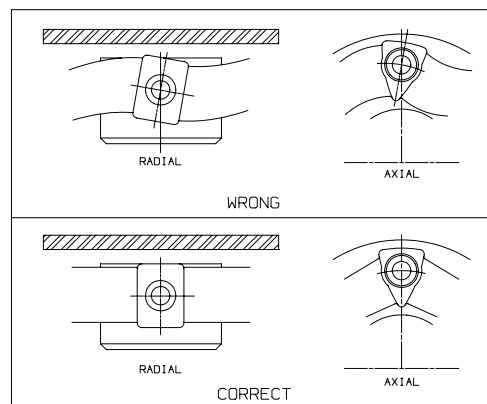
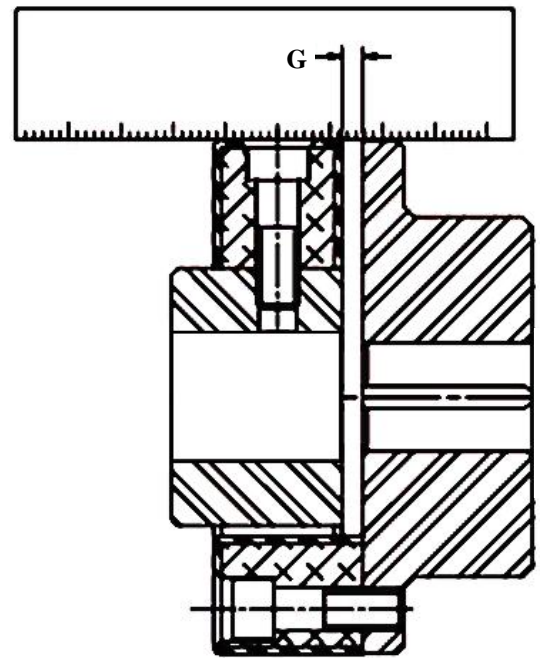

Figure 3
Figure 4
Since most adapter plate mounting holes will be threaded or have nuts welded to the back side of the plate, install the adapter on the flywheel. Then install the element with the axial cap screws or S-bolts finger tight only. It is usually a good idea to place a small amount of of a non hydrocarbon lubricant, such as petroleum jelly, under the head of the cap screws to prevent the inserts from twisting (See figure 3) when its time to tighten these screws to their specified torque. Avoid using hydrocarbon based grease or oil around the LF elements.
3. Attach the rubber element to the flange hub, flange adapter plate, or flywheel using the axial screws as shown in Figure 3. Only tighten these screws finger tight at this time. If this is the S-Style element, you will need to install the S-Pins on the flywheel or flywheel adapter without the element in place. The S-Pins can be tightened to the specified torque defined in Table 1.
5. Tighten the axial screws first. Make sure there is some non hydrocarbon lubricant under the head of the screw before inserting the screw through the element. See Table 1 for the proper torque values to use when tightening these screws. While tightening these screws, watch the inserts to ensure the inserts are not twisting or trying to rotate. See Figure 3, right side.
Note: Ensure the inserts in the element are not twisted as shown in Figure 3, top left. If the insert is twisted, it will not seat properly on the cylindrical hub and the bolts will come loose causing premature failure.
- b. When tightening the screws make sure the aluminum inserts or rubber arms are not twisted (see figure 4). To reduce the friction between the screw head and aluminum insert, place a drop of a non-hydrocarbon lubricant under the bolt heads prior to tightening. As stated in previous steps, a petroleum jelly should work. If the inserts are twisted (see figure 3), the radial inserts may not seat properly on the cylindrical hub or spacer shaft. If this happens the curved surface of the hub will not seat properly on the hub and will not carry the load with the full surface of the insert. When this happens, all the radial screws can loosen and the coupling will fail.
- d. S-Style elements can be installed backwards very easily. Care should be taken to ensure the standoffs are facing the flanged hub, flywheel adapter, or flywheel. The Lovejoy logo should be clearly visible facing outward. There should be gap between the element and flange as shown in figure 4. The dimension for this gap is defined in table 3.